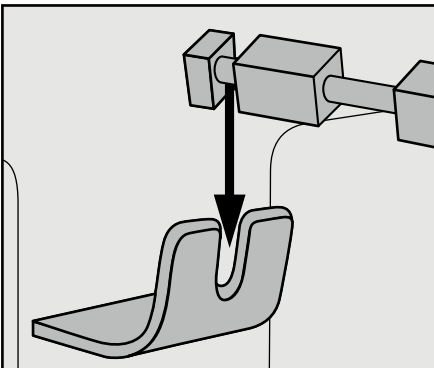

Fig. 2: Insert the rotisserie (16) in the spit fitting (9).
- Then insert the other end of the rotisserie (16) with the deep groove in the spit fitting (9) (Figure 2):